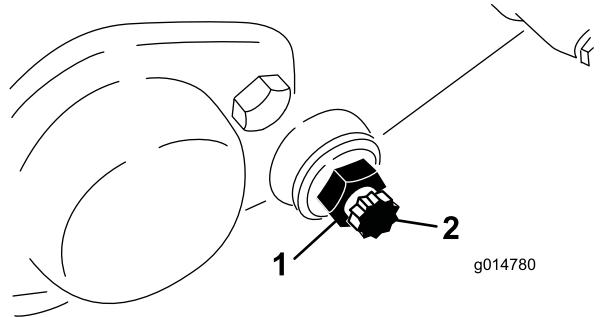

Figure 59
3. On each side of the machine loosen the jam nut securing the bedbar bolt (Figure 59).
4. Remove each bedbar bolt allowing the bedbar to be pulled downward and removed from the machine. Save the 2 nylon and 2 stamped steel washers on each end of the bedbar (Figure 59).